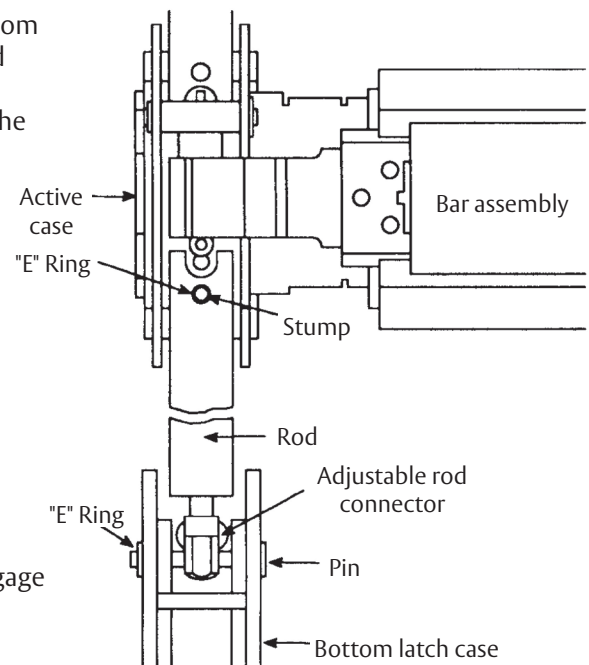

Figure 18
1. With the door closed and latched, attach the bottom rod to the bar assembly by slipping the hole in rod over the stump on active case and secure the rod with the "E" ring. ensure that the "E" ring engages the slot in the stump. (Figure 18)